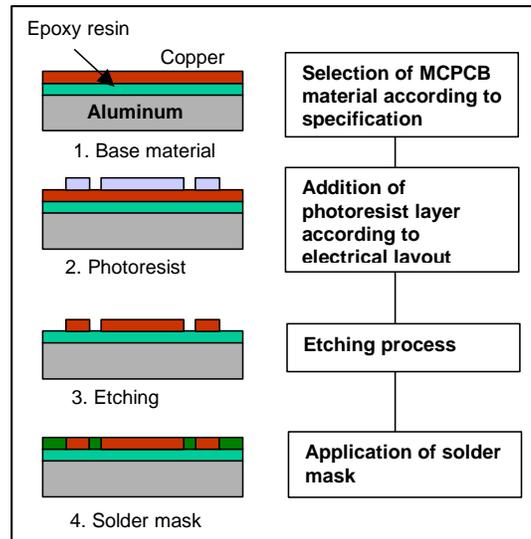

Figure 7
This is the MCPCB supplier. By etching the copper layer for the conduction paths between components, this supplier converts the base material into a PCB layout (see figure 7). A solder mask is added for protection of the copper layer once the etching is complete.
- Procurement and preparation of MCPCB (see figure 7)
## Steps 1–4: Procurement and Preparation of MCPCB (see figure 7)